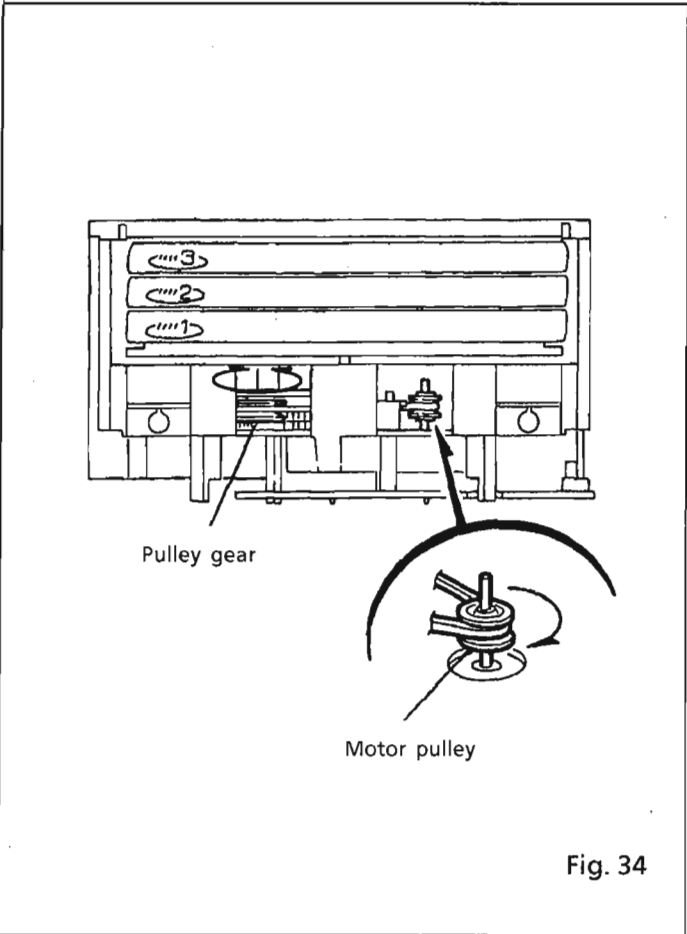
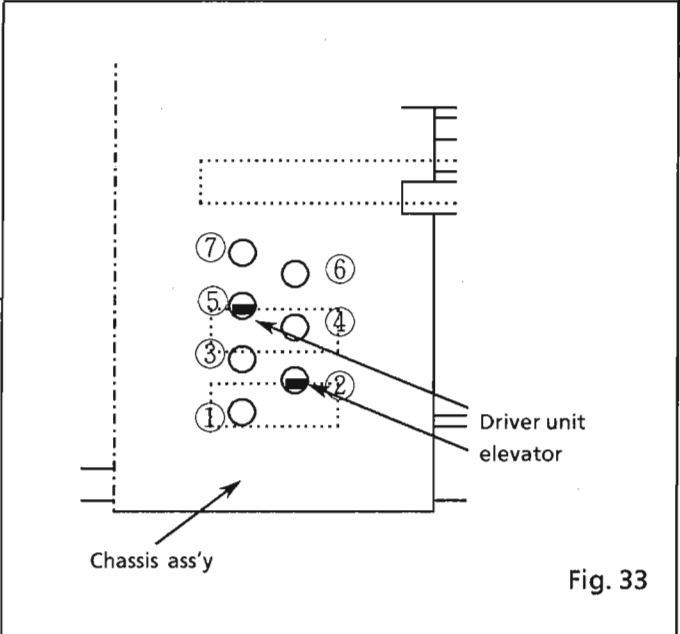

Fig. 34
Fig. 33
[NOTE] Set the elevator in correct position (Fig. 33) by rotating the pulley gear with finger if it is not positioned correctly (Fig. 34.).
12. Rotate the motor pulley clockwise with finger until the lifter unit's stopper is lowered from ⑨ hole located on the CD tray ass'y. (See Fig. 34.)